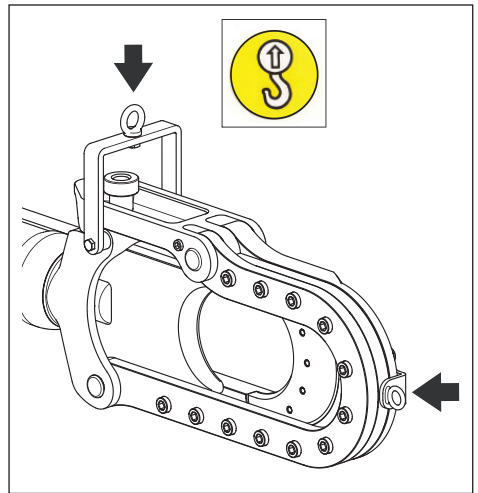

Figure 6, Cutter Lifting Location
- If it is necessary to move or transport the cutter, use only the supplied lifting eyebolts. See Figure 6. Use appropriately rated lifting equipment.